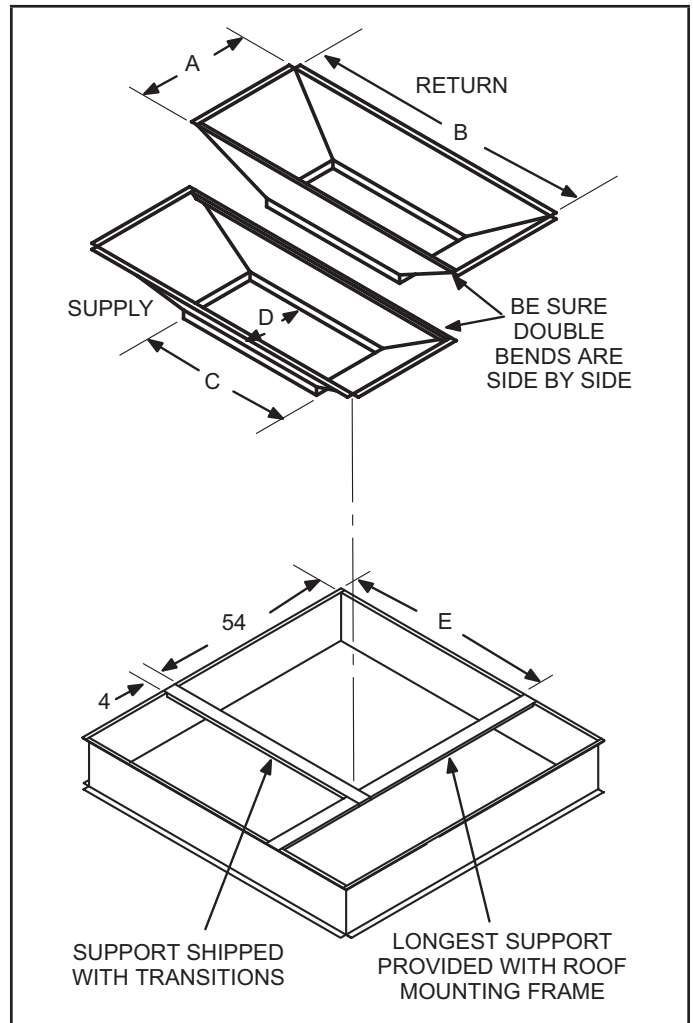

FIGURE 1
- 2 - Install the supply and return air braces as shown in FIGURE 1.